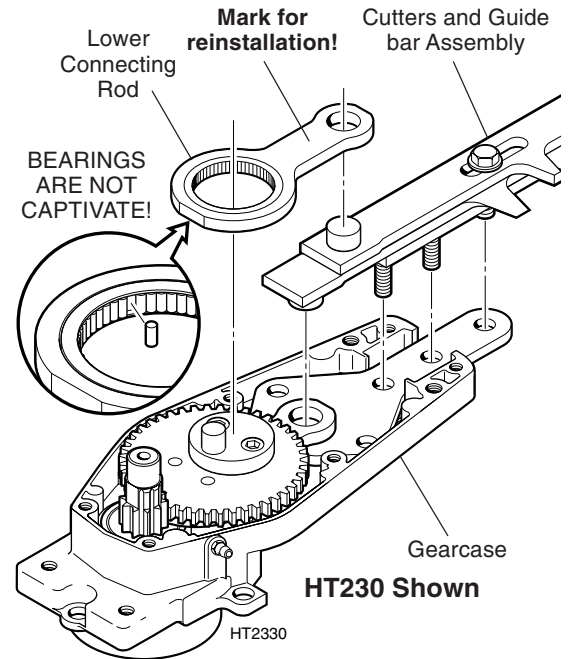

Figure 15. Removing the upper con-rod and cutters and guide bar assembly.
STEP 5. Gently lift the lower con-rod from the cam gear. **Be extremely careful not to dislodge the roller bearings from the large end of the connecting rod.** All 52 bearing rollers must be accounted for! (Figure 15)
STEP 6. Remove the cutters and guide bar as an assembly (Figure 15).